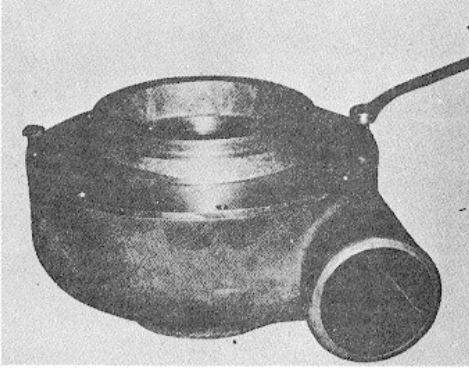

Fig. 10-9, T-418. Removing oil seal diffuser plate
6. Tap gently to loosen and remove diffuser plate from the collector housing. Fig. 10-9. Remove and discard sealing ring. Lift out compressor wheel.